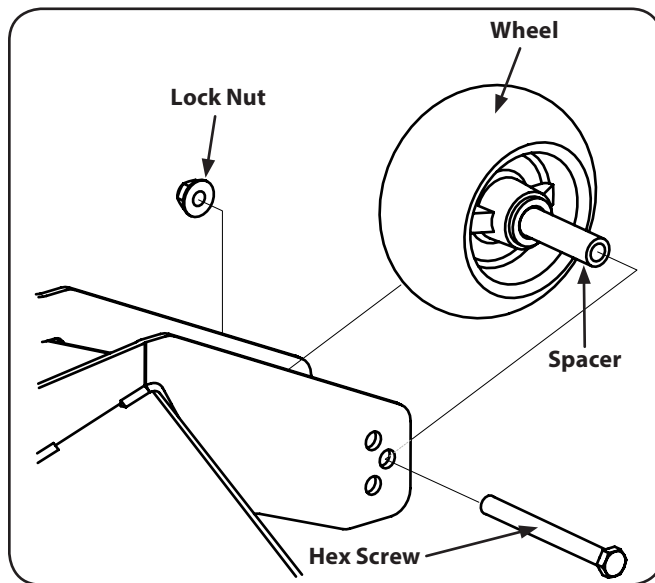

Figure 6-9
2. Remove the lock nut securing one of the front gauge wheel hex screws to the deck. Remove the gauge wheel, hex screw and spacer. See Figure 6-9.